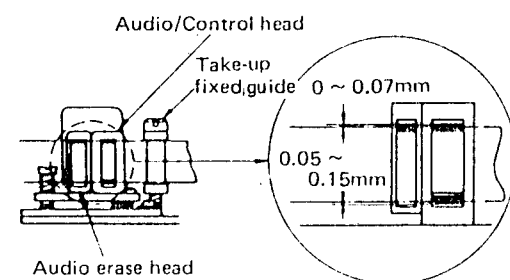

Figure 24.
- 3) Check that the audio/control head has a height and tilt with regard to the tape as shown in figure 24.